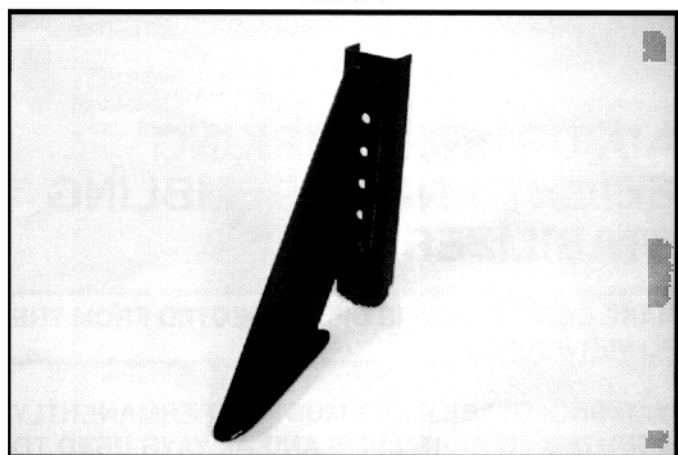

Fig. 14
6. Fig. 14, illustrates stabilizer mounted properly to leg extension.